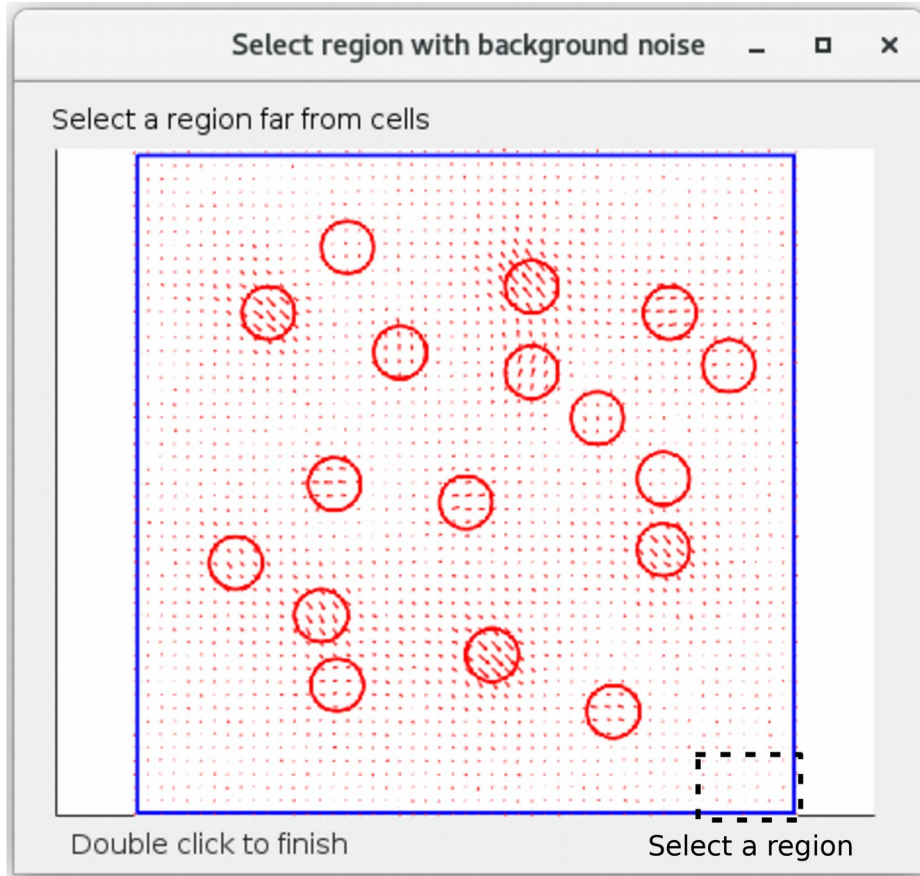

Figure 8. Manual selection of a region to estimate background noise.
- If a sample of the displacement noise is not available, you can estimate the measurement noise by selecting a region in the displacement field that is far away from any traction source and that does not show much systematic displacement. Select the ‘Manual noise selection’ option. A window with the title ‘select region with background noise’ will appear as shown in Figure 8. Select a region far away from the cell and double click to finish.